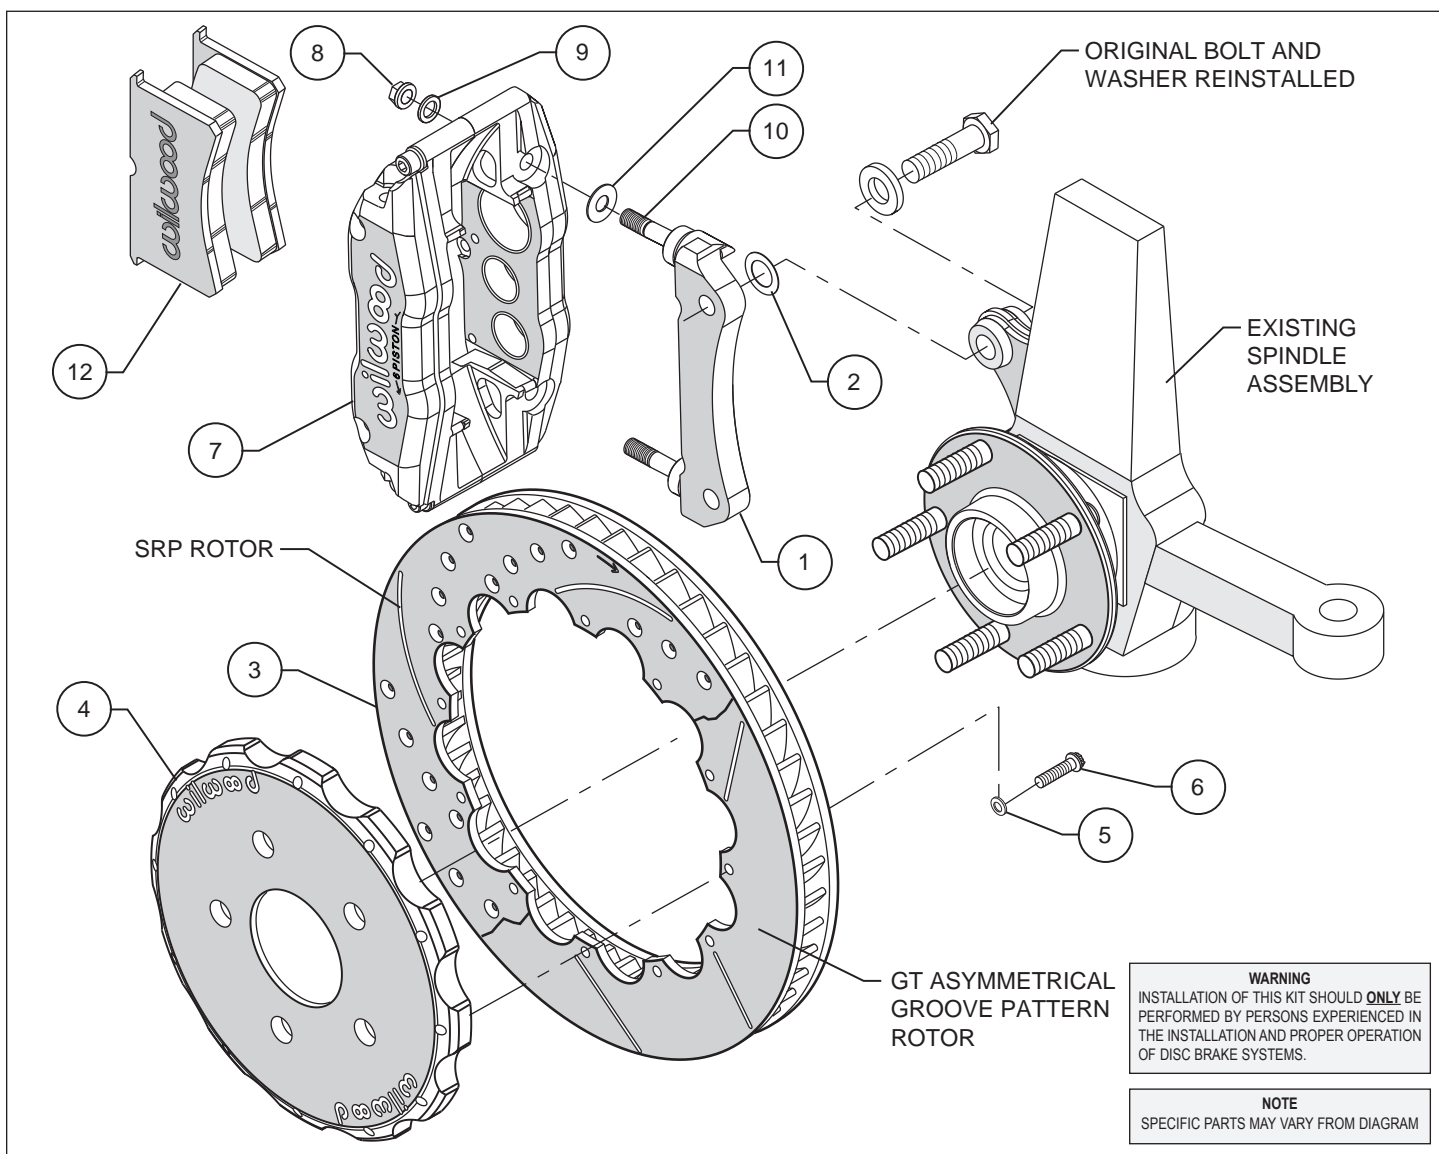
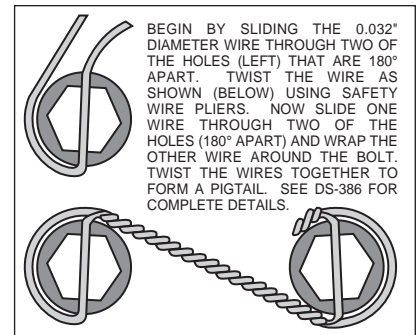

Figure 1. Typical Installation Configuration
Figure 3. Safety Wire Diagram
- Assemble the rotor (3) to the hat (4) with the bolts (6) and washers (5) as indicated in the configuration pictured in Figure 1. Be sure all bolts thread in smoothly and are snug. Then, torque all bolts in an alternating sequence to 85 **in-lbs**. The rotor mounting bolts (6) must be lockwired using standard 0.032 inch diameter stainless steel safety wire as shown in Figure 3. Please refer to Wilwood's data sheet DS-386 (available at www.wilwood.com/pdf/ds386.pdf) for complete safety wire installation instructions.